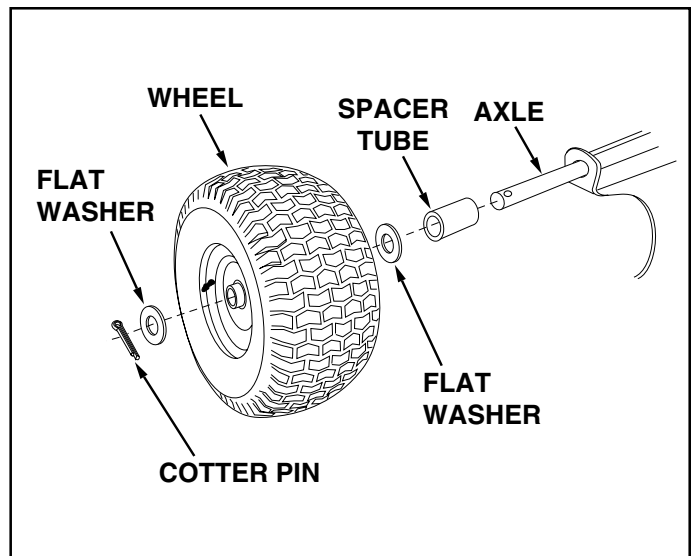

FIGURE 5
- Assemble a spacer tube, a 1" flat washer, a wheel (valve stem facing out) and another 1" flat washer onto the axle as shown in figure 5. Insert a cotter pin through the axle, spreading the ends. Repeat on other end of axle.